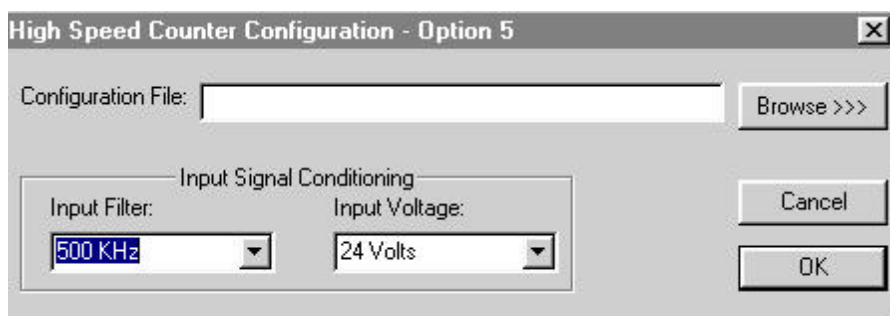

Figure 7.2 – Option 5 Configuration Screen
3. The following screen appears (Figure 7.2): Press **Browse** and locate the external option file. (Another screen appears.) Select the file and press **Open**.
4. The Option 5 screen reappears (Figure 7.2):